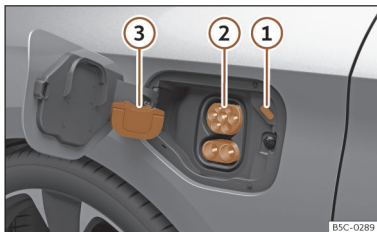

Fig. 63 Behind the battery charging cover on the rear right-hand side.
- Remove the protective cap and hang it on the hook >>> **Fig. 63 ③**
- Plug the charging station's charging connector into the charging socket >>> **Fig. 63 ②**
The LED (charging process indicator) of the charging socket flashes or flashes white >>> **Fig. 63 ①** >>> page 85
The charging process indicator on the charging socket ① flashes green >>> **Fig. 63.**
- Tap the **Stop charging** function button on the infotainment system display. The charging process indicator located next to the charging socket ① lights up white >>> **Fig. 63.** The charging connector is unlocked.
- Place the protective cap on the charging socket's lower connection >>> **Fig. 63 ③**